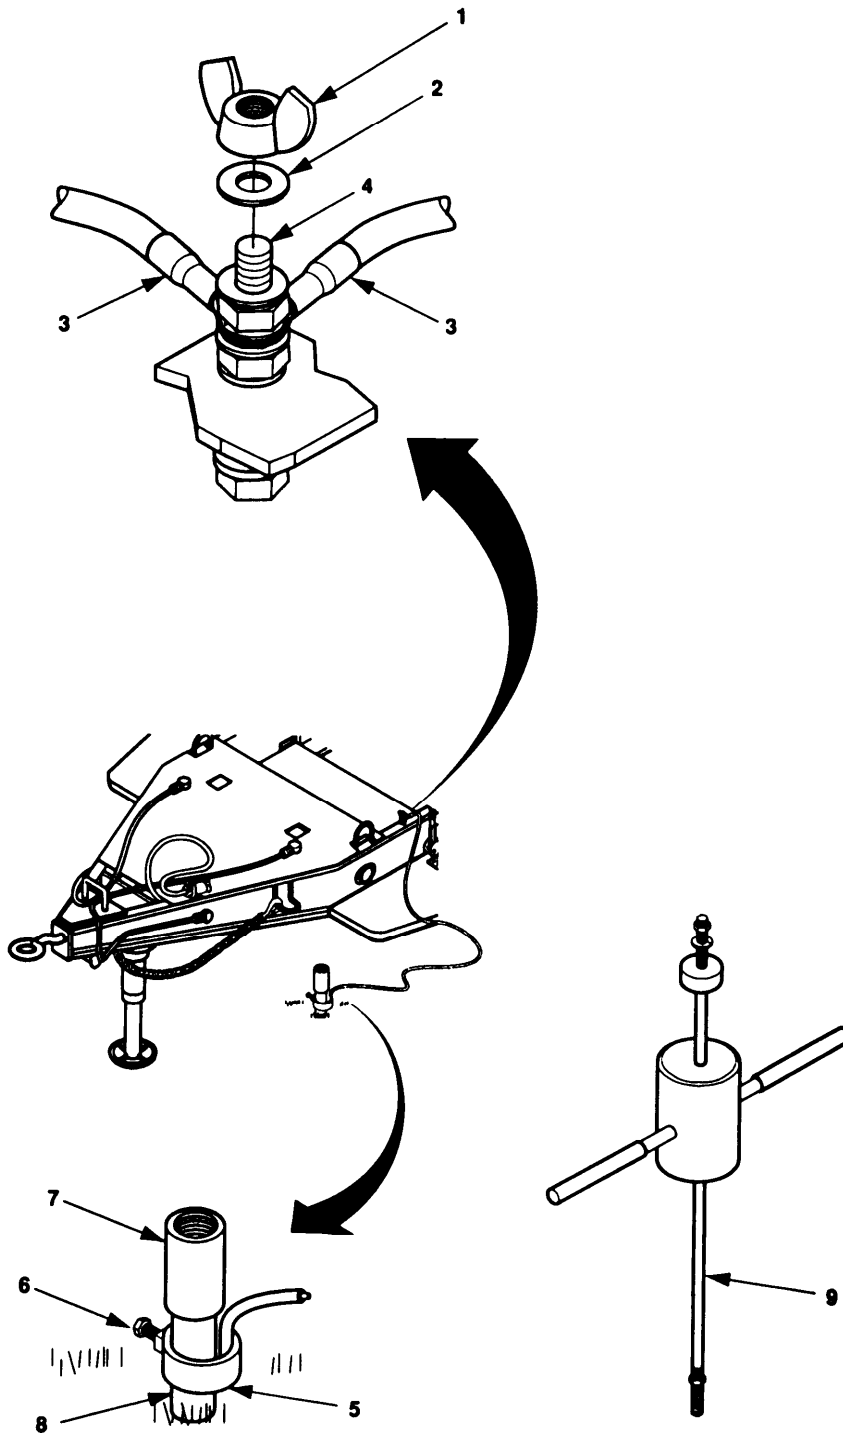

Figure 2-16. Ground Rod *Removal*.
- (1) Loosen clamp screw (6, figure 2-16) and remove ground cable.
- (2) Remove wing nut (1), washer (2), and terminal (3) from ground stud (4). Roll up ground cable and store in accessory box.
- (3) Install washer (2) and wing nut (1) removed in step a.(2) on ground stud (4).
- (4) Remove coupler (7) and ground cable clamp (5) from ground rod section (8).
- (5) Install coupler (7) on ground rod section (8).